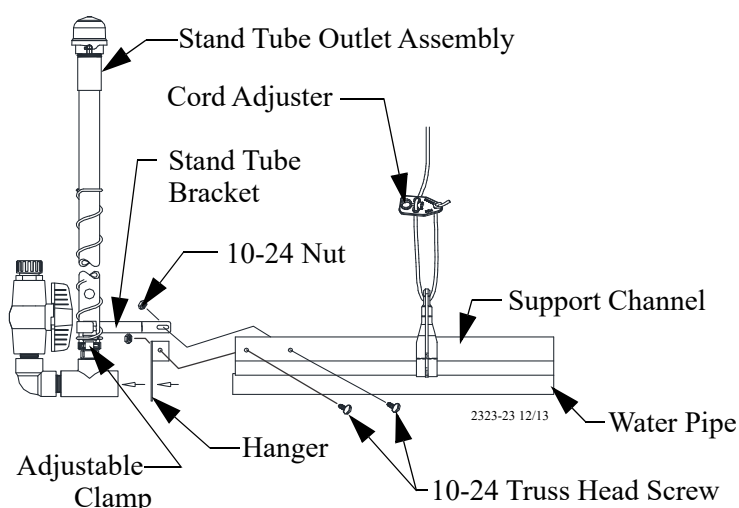

Figure 25. Outlet Assembly Installation
Install the outlet assembly, as shown in Figure 25.
3. Secure the hanger to the support channel, as shown in Figure 25. If the water line was shortened to terminate under a suspension drop line, it may be necessary to drill a hole in the support channel for the 10-24 stainless truss head screw and lock nut. The Stand Tube Bracket may be used as a template to determine proper hole location.